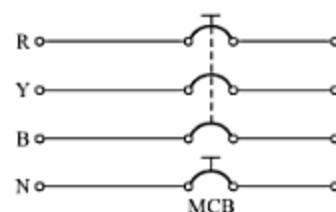

Fig. 1.10 Three-phase ac supply.
- (ii) **400-V, 50-Hz, Three-Phase Supply** Normally, it has four wires—three for phase/line and one for neutral (Fig. 1.10).